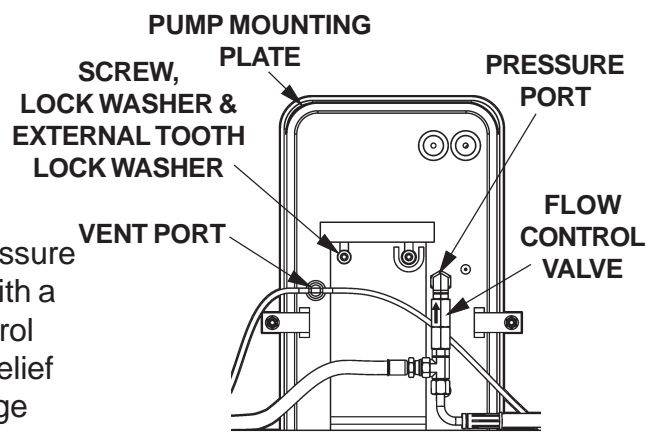

FIG. 63-3
2. Check the Hydraulic Cylinder. With the Platform on the ground, remove the Breather Plug or Vent Line from the Vent Port of the Cylinder (**FIG. 63-3**). Raise the Platform even with the bed. Allow pump motor to run two seconds more while you watch for hydraulic fluid at the Vent Port. A few drops of hydraulic fluid escaping the Vent Port is normal; however, if it streams from the Vent Port, Piston Seals are worn. Replace Seals.
3. Check and clean Flow Control Valve in high pressure hydraulic line attached to Pump Mounting Plate. When installing Flow Control Valve, make sure it is pointing to the direction of restricted fluid flow (pointing up and back toward pump) (**FIG. 63-3**).
5. Verify the Pump Motor is grounded to vehicle frame. Make sure external tooth lock washer is installed under Pump mounting screw and flat washer (**FIG. 63-3**).